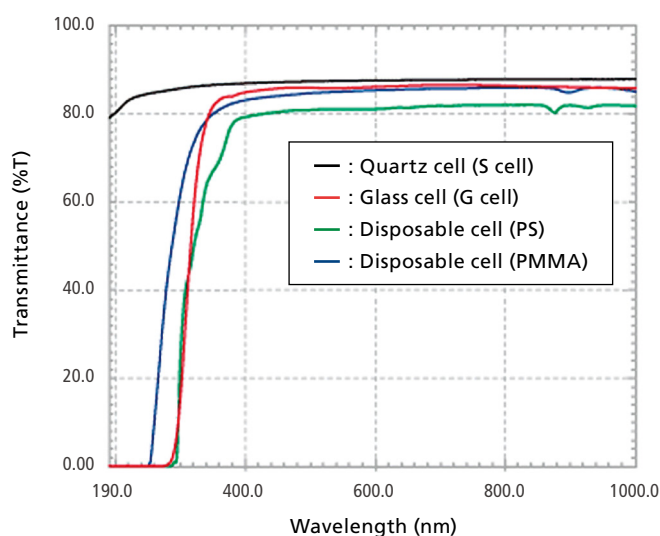

Fig. 3 Transmittance of Each Cell Type
The cell material must not absorb light in the measurement wavelength range. Glass and quartz are two of the most common materials used for cells. Disposable cells, which are normally made from polystyrene (PS) or polymethyl methacrylate (PMMA), are also available. The transmission spectrum of each of these cells relative to air is shown in Fig. 3. If a cell has been used since a previous operator's time and it is